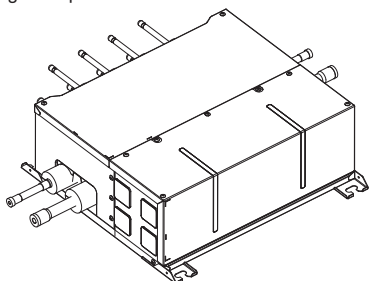

Fig. 4-5
4.2. The direction of the piping can be changed. (Fig. 4-4) Piping direction change work procedures. (Fig. 4-5 ①~⑤)